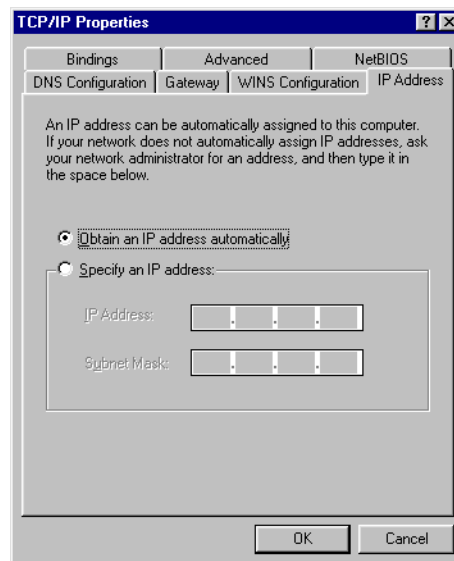

Figure B.2 TCP/IP Properties
3. Click **Properties** underneath the list of network components. The TCP/IP dialog box opens (Figure B.2).